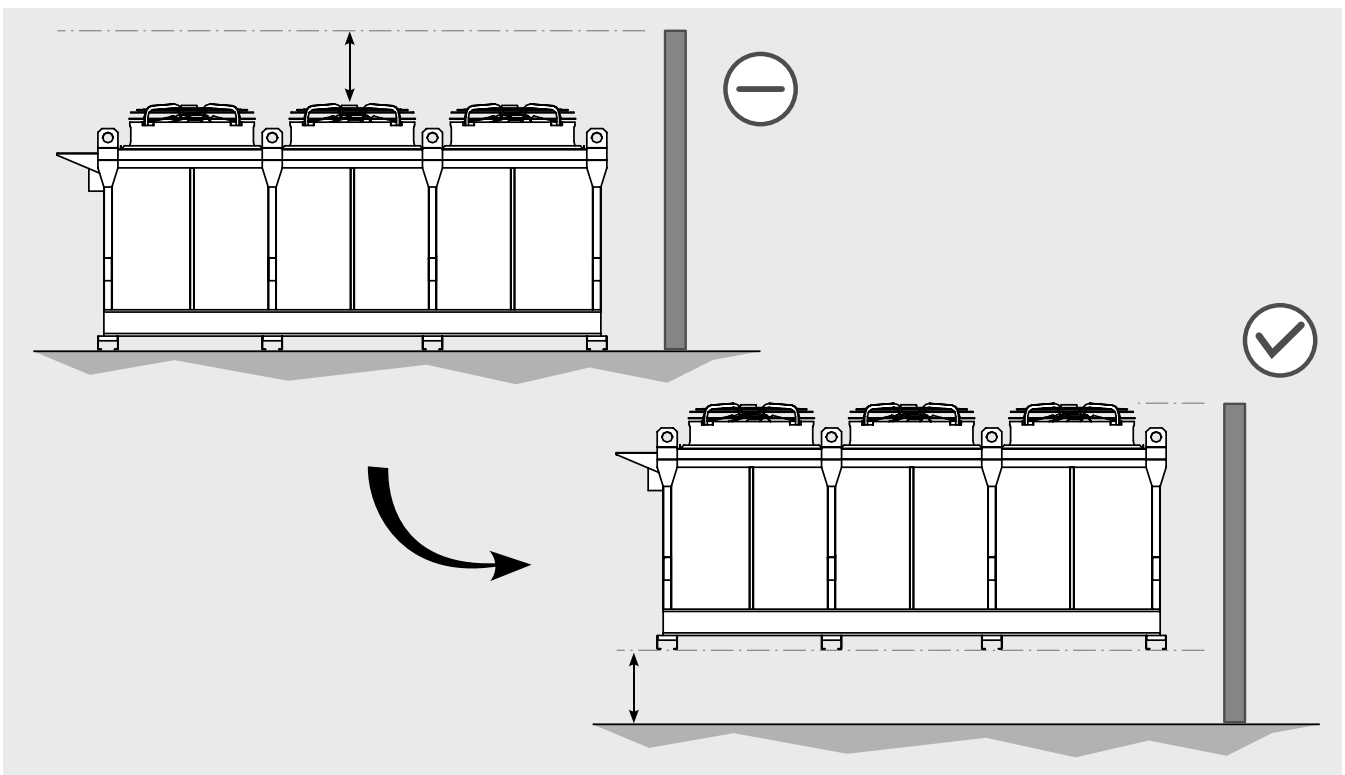

Figure 7
4.8 In the case of installation close to an obstacle (wall, hedge, windbreak, etc.), if possible, raise the model so that the fan outlet is higher or at least at the same level as the upper edge of the obstacle. See Figure 7.